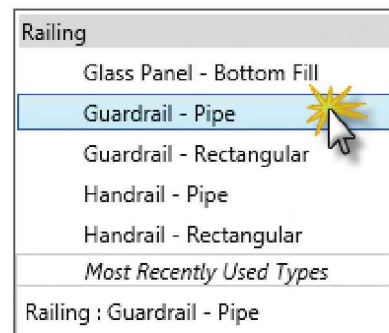

FIGURE 11-4.3 Options for selected railing
- With the railing selected, select the various railing types available in the *Type Selector* on the *Ribbon*. When finished make sure **Railing: Guardrail – Pipe** is selected (Figure 11-4.3).